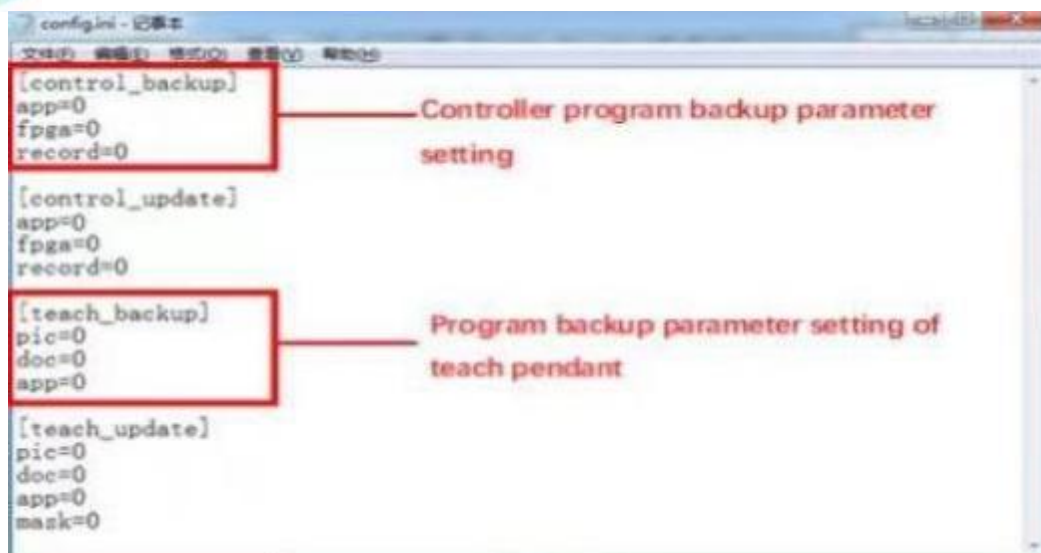

Figure 9.2 Related contents of "config.ini" configuration file backup
- 3) Open "config.ini" with notepad and edit the text content as shown in Figure 9.2. The text contents related to backup are described in table 9.2.